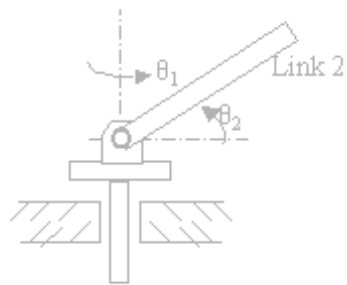

Figure 8
8. Consider a two-degree of freedom manipulator shown in figure 8. Assuming that the inertia of the first moving link is negligible and that the second moving link is a slender homogeneous rod of mass  $m$ , determine the dynamical equations of motion by the Lagrangian method using  $\theta_1$  and  $\theta_2$  as the generalized coordinates. [16]